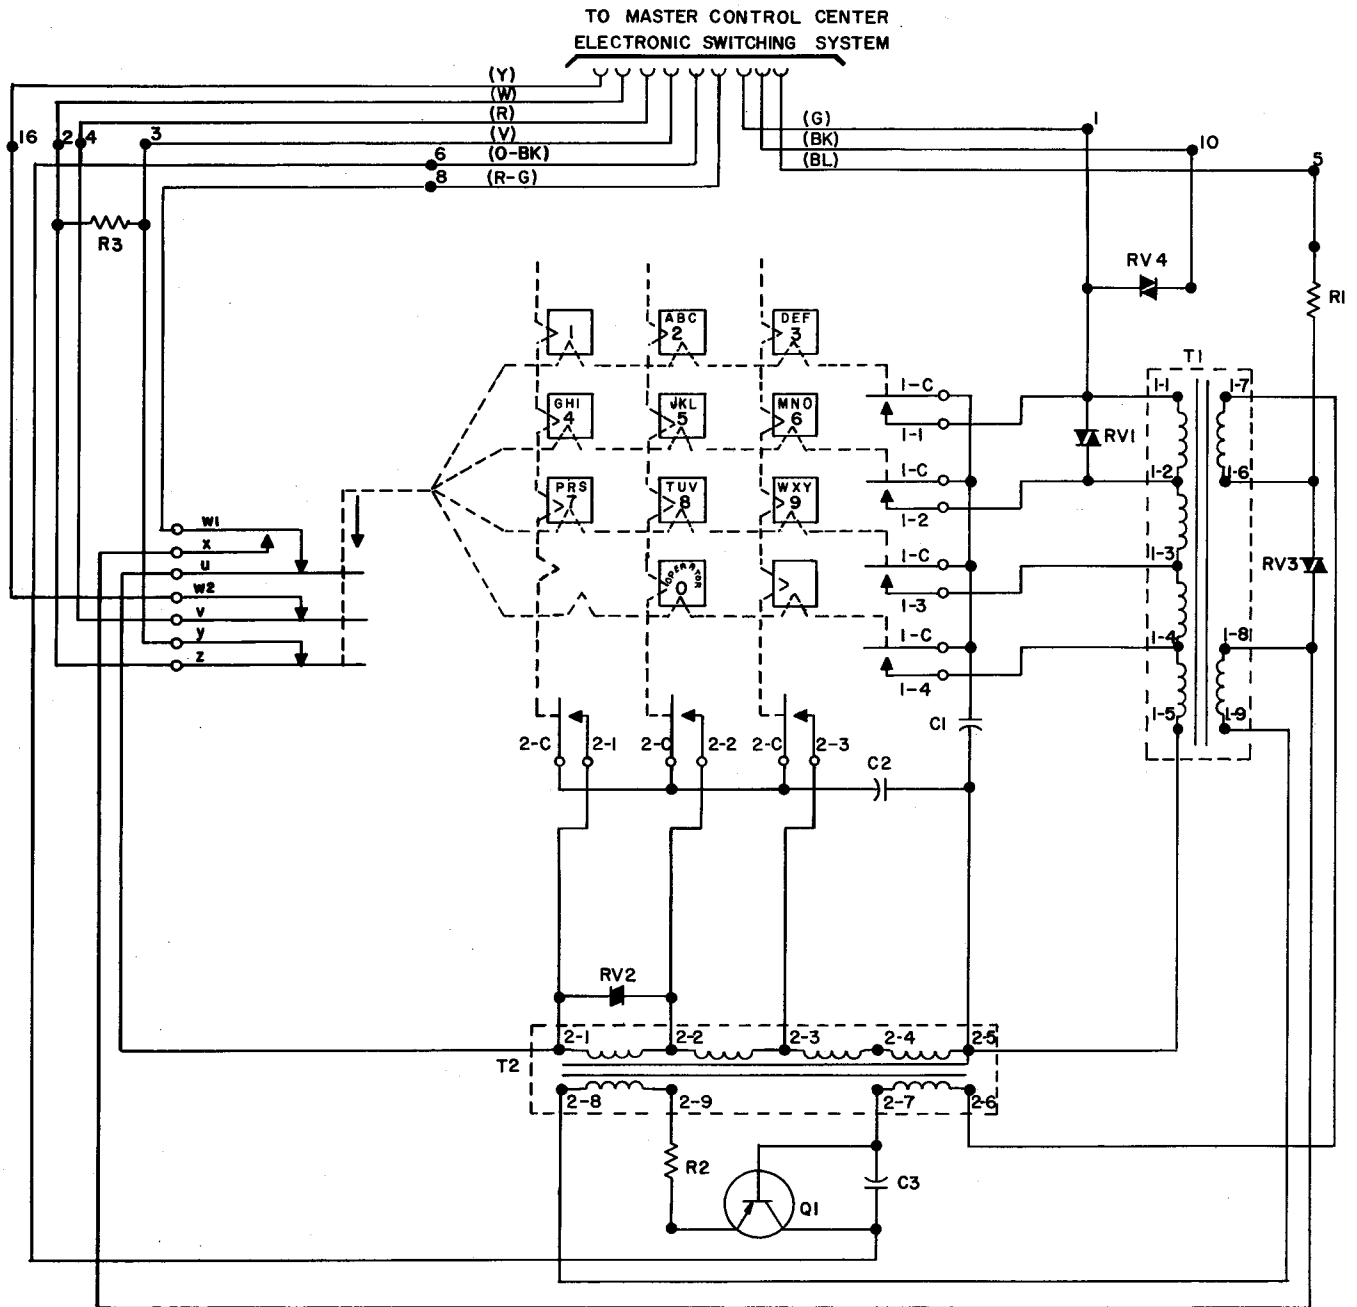

Fig. 5 - 27A3 Dial, Schematic
**4.02** A 27A3 dial schematic is shown in Fig. 5.